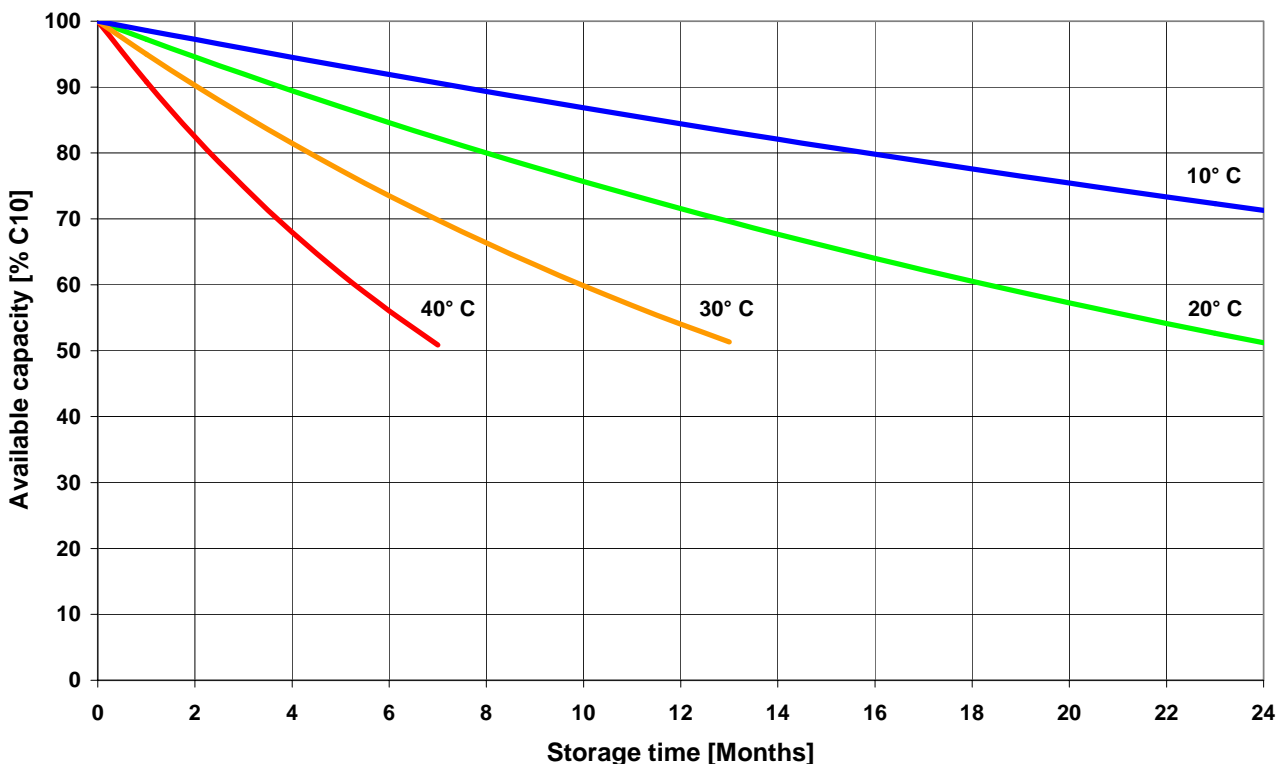

Fig. 1: Available Capacity vs. Storage Time at different Temperatures (standard Gel-Batteries)
- The temperature has an impact on the self-discharge rate of cells and blocks (see fig. 1 and 2).
24 months for standard Gel-batteries (fig. 1) and